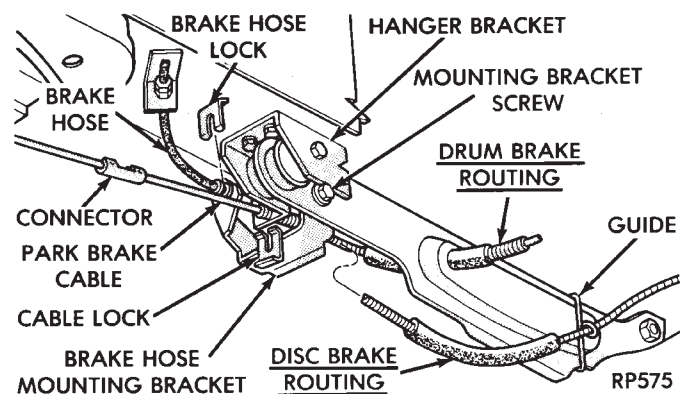

Fig. 9 Brake Hose Bracket & Park Brake Cable
(5) Position brake hose mounting bracket to trailing arm, install and tighten retaining screw to 11 N•m (95 in. lbs.) torque (Fig. 9).